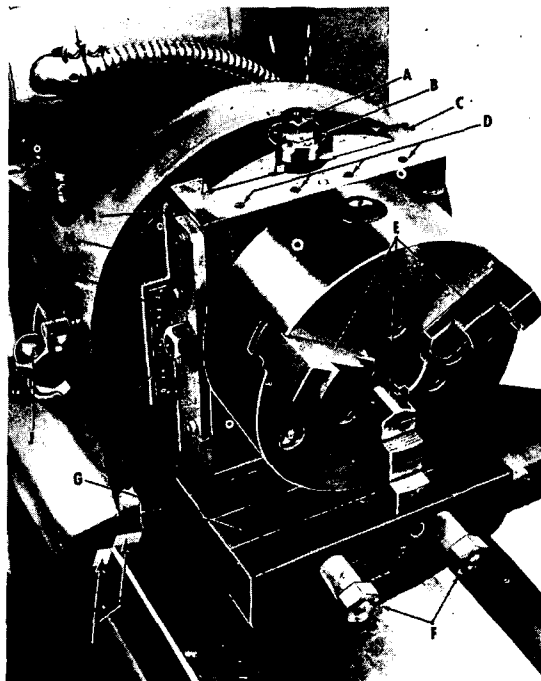
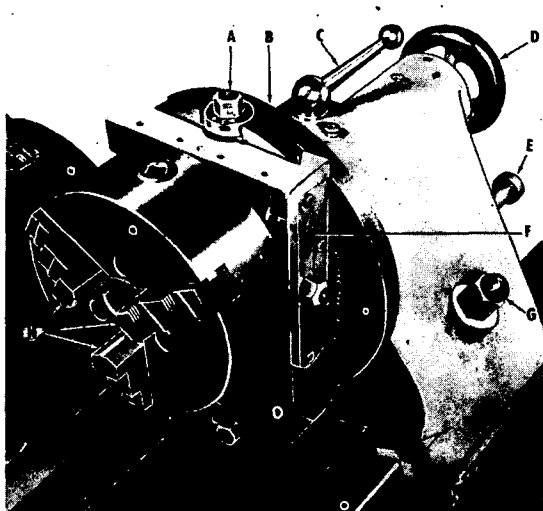

Figure 3—Headstock Work Head
Figure 4—Tailstock
#### 501—HEADSTOCK AND HEADSTOCK WORK HEAD (Fig. 3)
The work head (M, Fig. 3) has three available speeds: 40, 60, and 80 r.p.m. These speeds are selected by changing the belt on the three-
The head lock shaft (K, Fig. 3) locks the work head in a vertical position.
The lock nut (J, Fig. 3) anchors the entire headstock assembly to the front table.
The elevating screw dial (B, Fig. 3), is calibrated to .001". This screw raises or lowers the elevating head (C, Fig. 3). The scale (L, Fig. 3) is used in conjunction with dial (B, Fig. 3).
The cross slide is adjusted with the nut (H, Fig. 3) and is used for trueing the crankshaft when grinding main bearing journals only.
#### WORK HEAD (Figure 4)
The hand wheel (D, Fig. 4) moves the spindle and work head assembly to the right or left.
The spindle lock (C, Fig. 4) locks the spindle to the housing.
**Wear Strips:** (P, Fig. 3) (J, Fig. 4) Both the workstock and tailstock are equipped with hardened, precision ground steel strips placed between the housings and the table surface. If realignment of headstock and tailstock becomes necessary, it is easily done by shimming between the housings and these steel wear strips.
Find the "stroke" of the crankshaft to be ground (listed in most bearing catalogs). Engage the lockshafts into the work heads. Move the work head vertical slides to the proper setting according to the "stroke" of the crankshaft. Be sure that the cross slides are in the neutral position. Open the chuck jaws at the headstock (E, Fig. 3) slightly larger than the size of the flywheel flange. Open the chuck jaws (H, Fig. 4) at the tailstock slightly larger than the size of the timing gear end of the crankshaft.